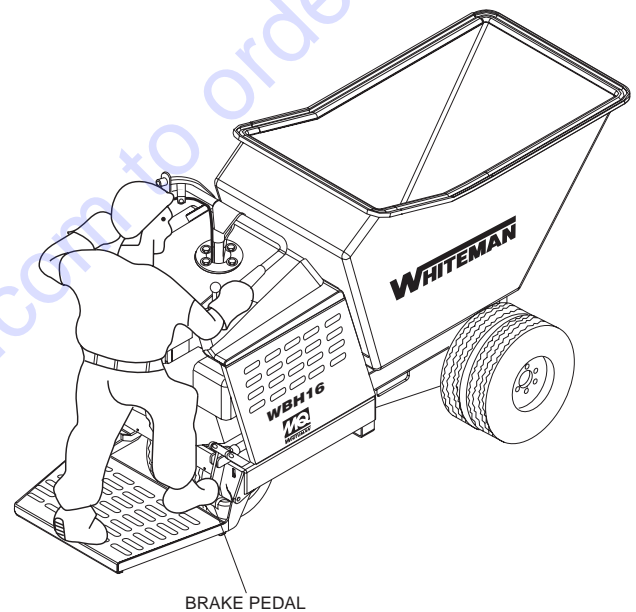

**Figure 21. Direction Lever**
4. Place the power buggy's direction lever (Figure 21) in the forward direction.
1. With the engine running and parking brake released, place the direction lever (Figure 21) in the forward direction.